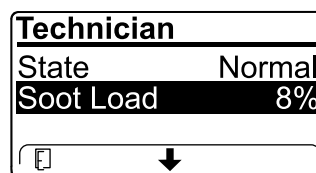

Figure 27
- View the soot load which is measured as the percentage of soot in the DPF (Figure 27); refer to the soot-load table.